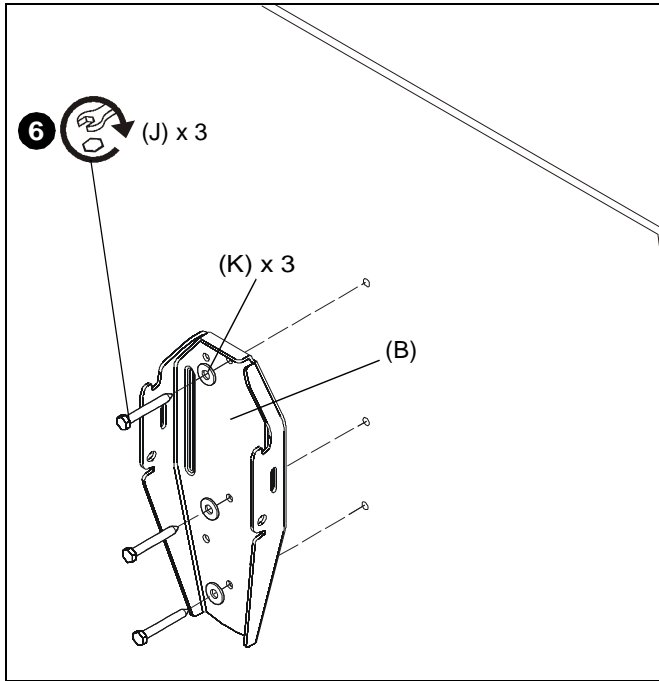

Figure 4
6. Install three 5/16 x 2 1/2" hex head lag screws (J) through three 5/16" washers (K), inner holes of mounting bracket and into drilled holes. (See Figure 4)